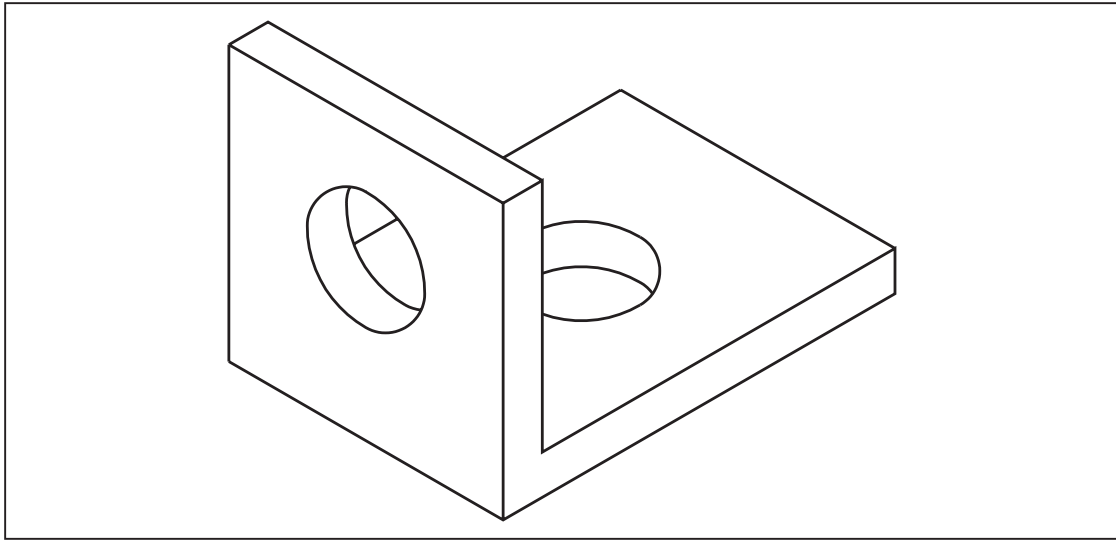

Figure 63: Completed isometric
□ File the completed drawing, as Figure 63.